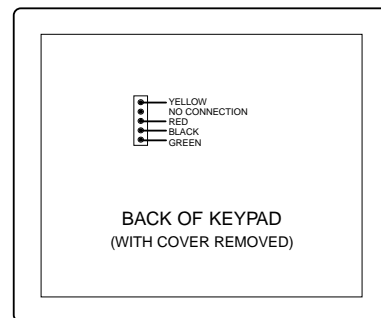

Figure 1: 6128WL Wiring Connections
4. **Plug the supplied connector** with the flying leads into the 6128WL's PC board and splice the panel wiring to it. (See *Figure 1* for wiring connections).